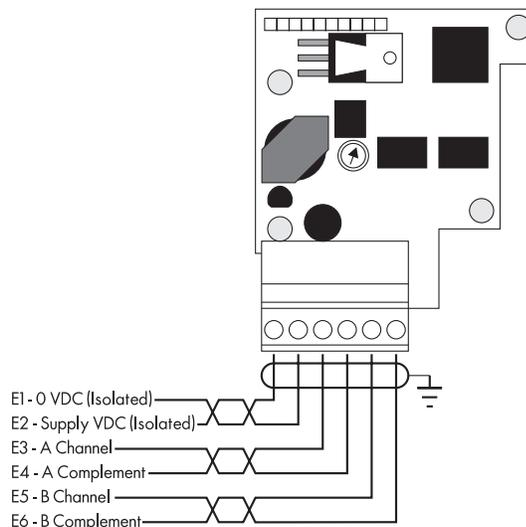

Figure A.11 - Encoder Receiver Card Terminal Designations
1. Connect the encoder as shown in Figure A.11.
1. Connect the A and B channels to terminals E3 and E5 as shown in Figure A.11.